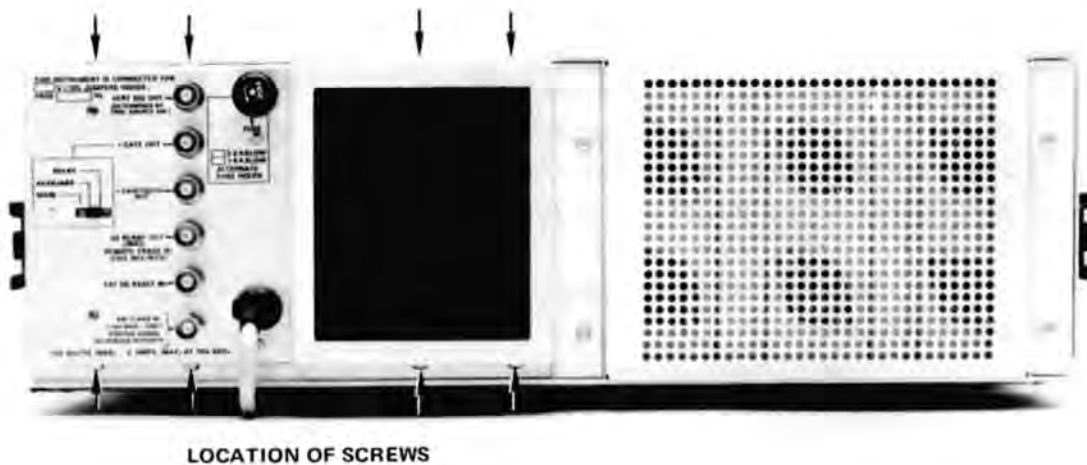

Figure 4-6. Location of screws holding Signals Out rear panel.
1. Remove the eight screws holding the Signals-Out rear panel to the chassis. Pull rear panel out as far as cables will permit (see Fig. 4-6).